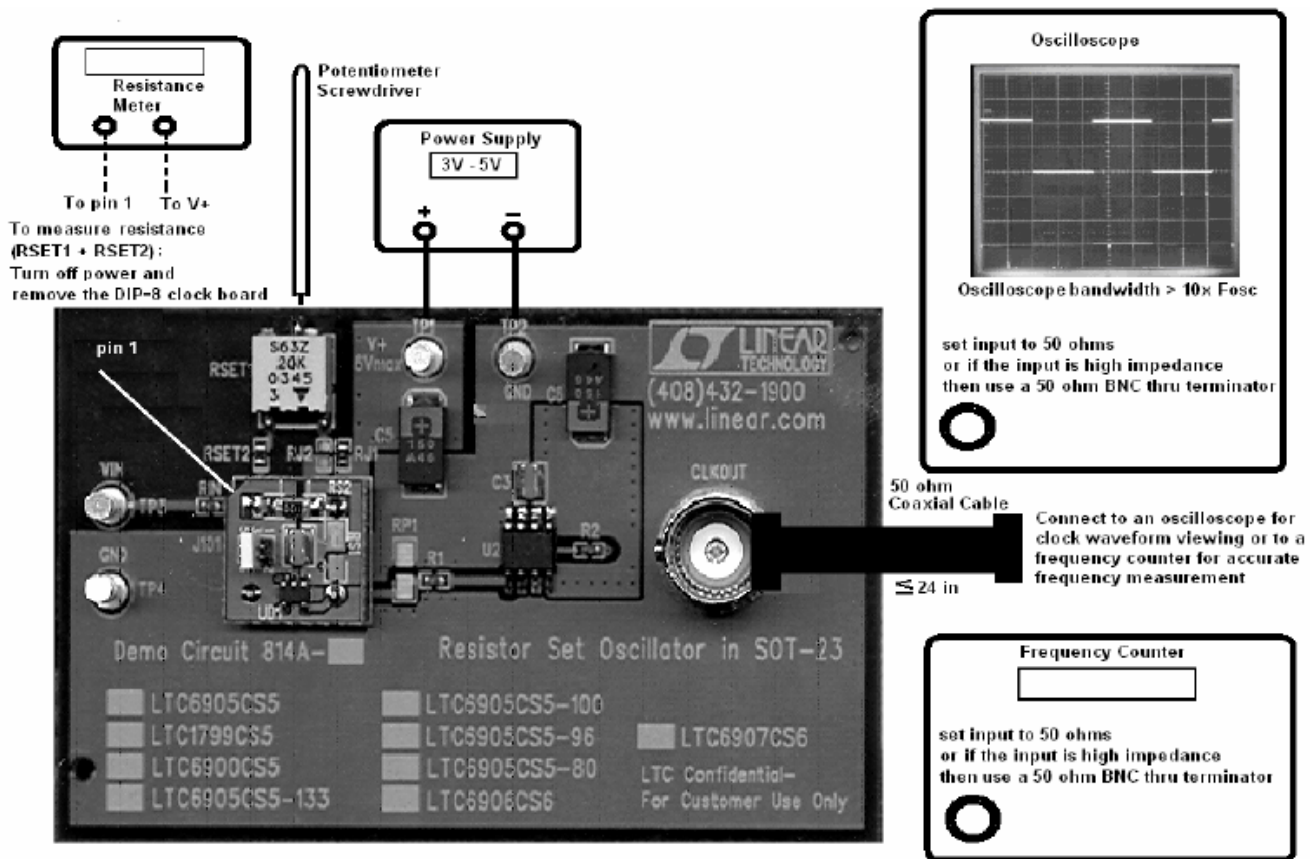

Figure 6. Typical Buffer Board Quick Test Set-Up
4. Connect buffer board to a single power supply and an oscilloscope as shown in Figure 6 (the oscilloscope input should be set to 50 ohms impedance internally or terminated externally with a 50 ohm BNC thru terminator).
1. Connect buffer board with the DIP-8 clock to a single power supply and an oscilloscope as shown in Figure 6 (the oscilloscope input should be set to 50 ohms impedance internally or terminated externally with a 50 ohm BNC thru terminator). Turn on the power supply.